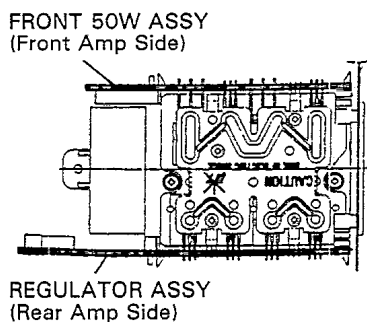

Fig. 2-1 Power Amp Module (POWER MOD. F50)
9.2 POWER AMP MODULE SECTION (Refer to Fig. 2-1.)